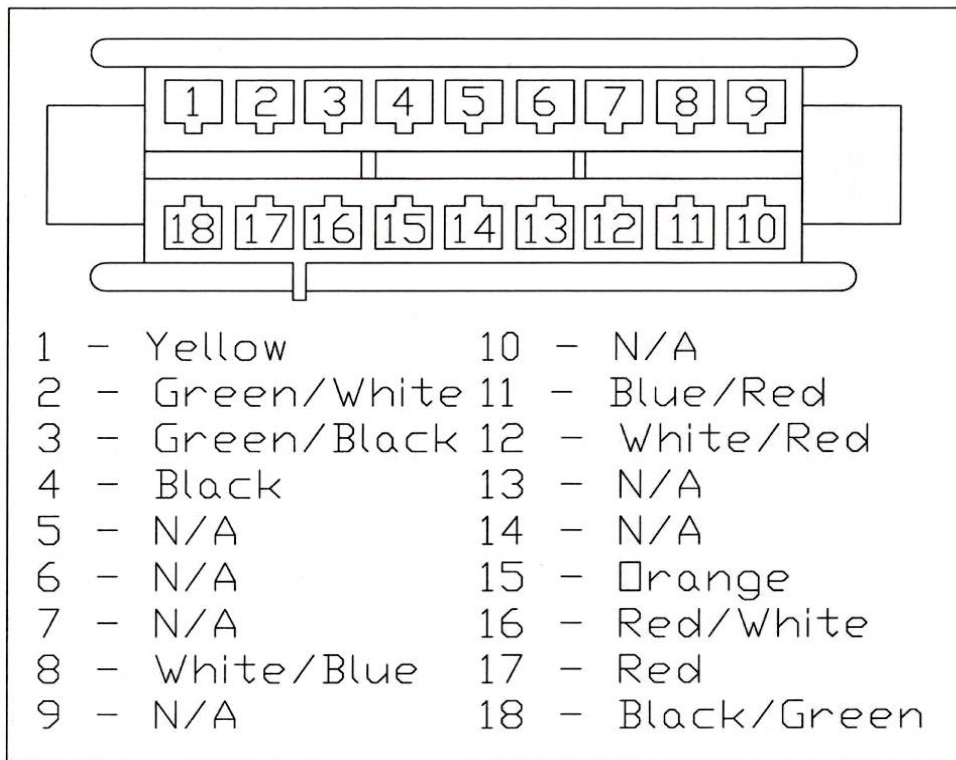
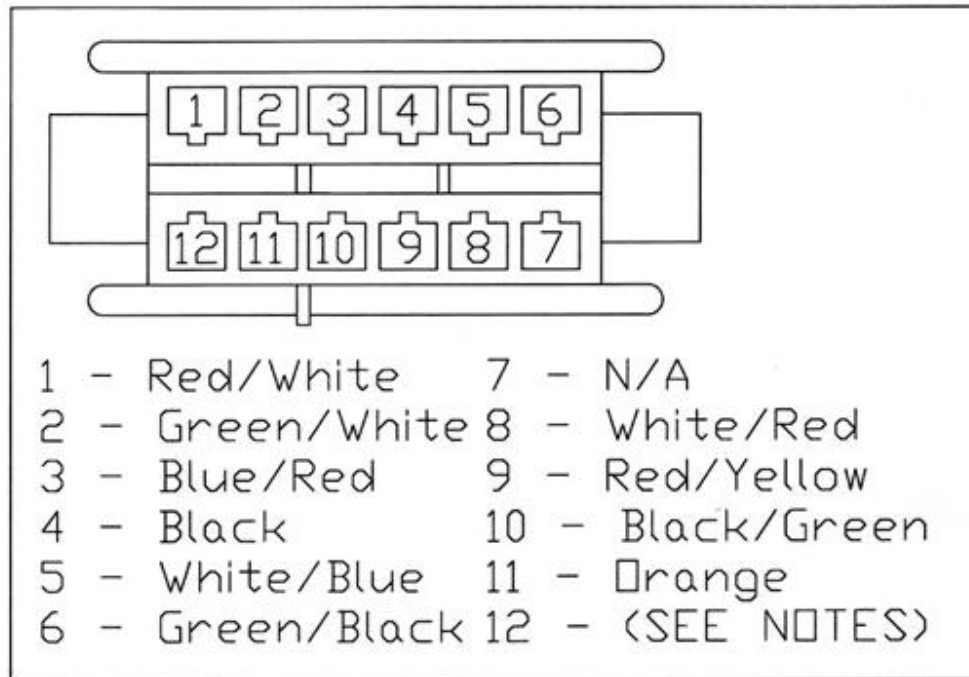
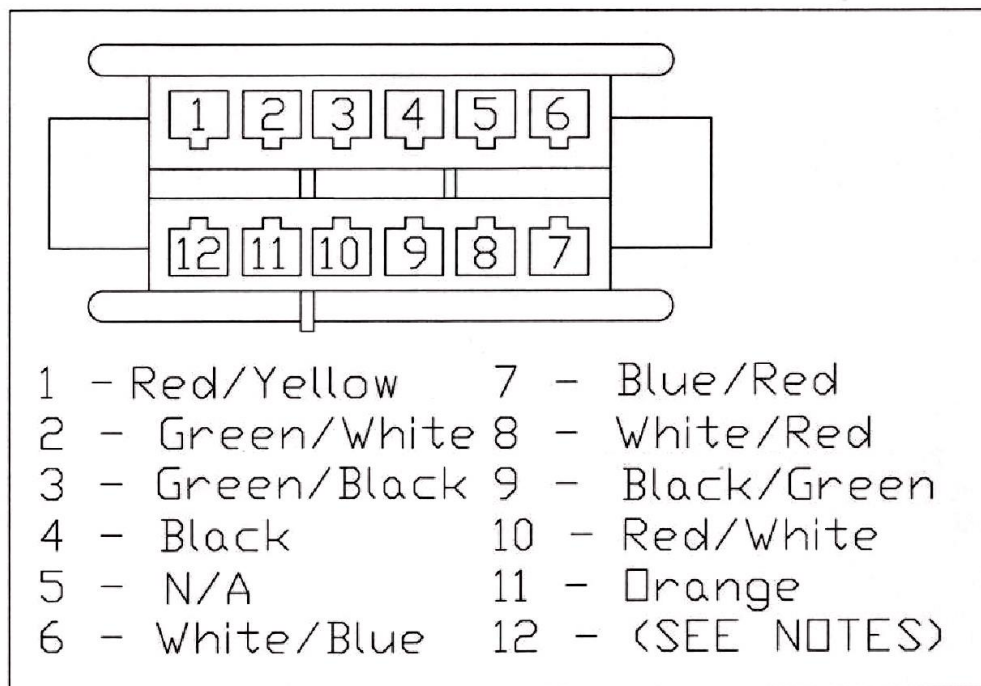

Figure 7-36 1971 (AND SOME 1972 MODELS) Cluster Pigtail Pinout
Figure 7-37A 1972 Cluster Pigtail Pin Out
Figure 7-37B 1972 Cluster Pigtail Pin Out
7.17.2 NOTES: For 1972 Models ONLY! There is at least three different possible pin outs for the 1972 gauge cluster that we have identified. If the factory cluster connector is an 18 pin connector you will use the pin out shown in Figure 7-36. If the factory cluster connector is a 12 pin connector and pin 7 is not populated you will use the pin out shown in Figure 7-37A. If the factory cluster connector is a 12 pin connector and pin 5 is not populated you will use the pin out shown in Figure 7-37B. Also, on the 1970 – 1974 Cluster Pigtail, remove the Green/Red wire from the #2 cavity on the white connector and install the single Green/Red wire with the Label "Green/Red 1972 Only" on it. Carefully tape up and stow the removed wire and be absolutely sure to insulate it from a ground.